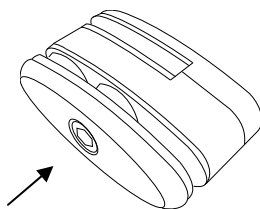

Fig. 4
5. Repeat on the second Side Wing (Fig 4) Proceed to item 9.